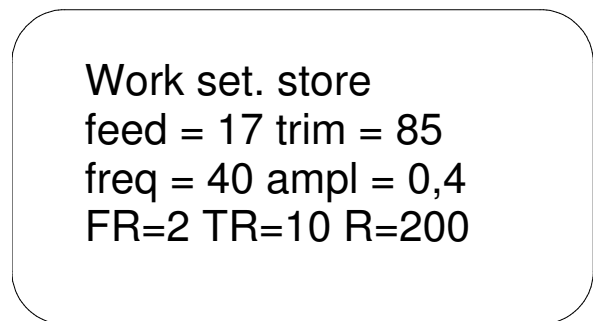

Fig. 25
- Turn the large turning knob to select the desired position for the work setting which is to be stored (fig. 25).